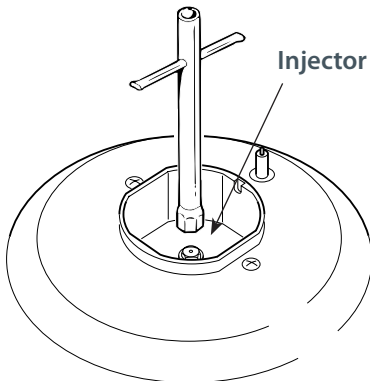

Fig. 7 Auxiliary, semi-rapid and rapid burners
- Using a spanner, remove the injector (Figs. 7 and 8) and replace it with one according to the gas type (see ‘Table for the choice of injectors’).